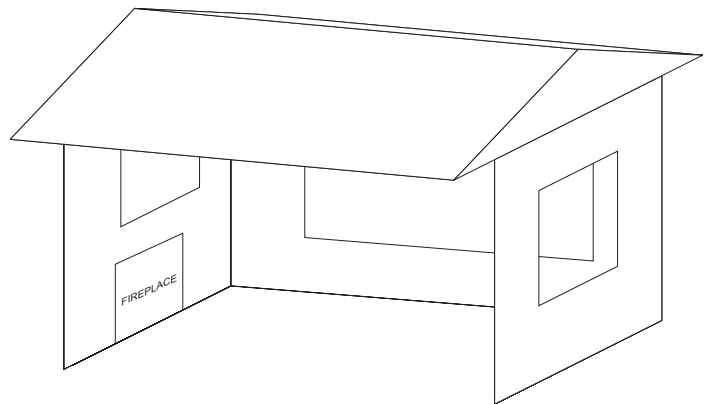

Figure 12
- This partial enclosure includes an overhead cover and three walls, no more than 30% or more of the horizontal periphery (i.e. perimeter) of the enclosure permanently open. These openings cannot be screened or have operable windows or shutters. **See Figure 12.**